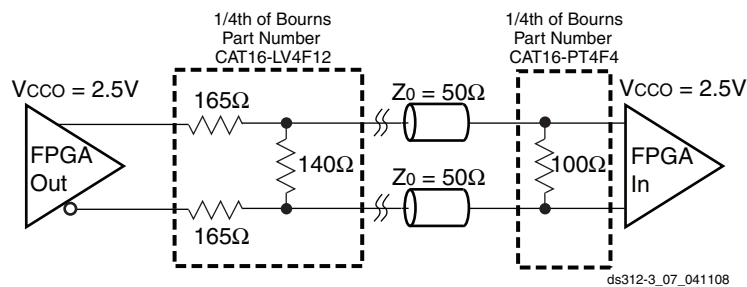

Figure 72: External Termination Resistors for BLVDS Transmitter and BLVDS Receiver
- Output voltage measurements for all differential standards are made with a termination resistor (R_T) of 100Ω across the N and P pins of the differential signal pair. The exception is for BLVDS, shown in Figure 72 below.